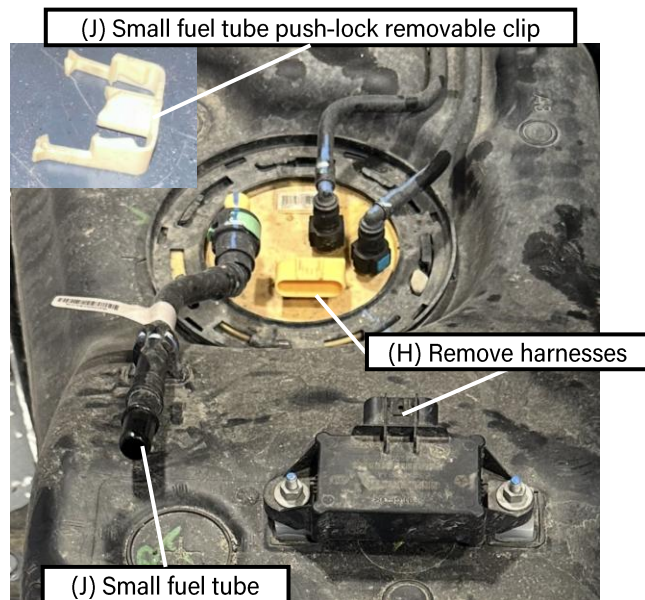

Figure 38: Line plastic clips
- ❑ (H) Access the middle top of the tank and remove the two large wiring harnesses as well as the small fuel tube (Figure 38)
- ❑ (J) The small fuel tube will have a push-lock fitting. First, remove the plastic locking clip (Figure 38) . Then, push in on the back of the lock to disconnect the push lock tube. **Put aside the plastic locking clip, as it will be reused.**